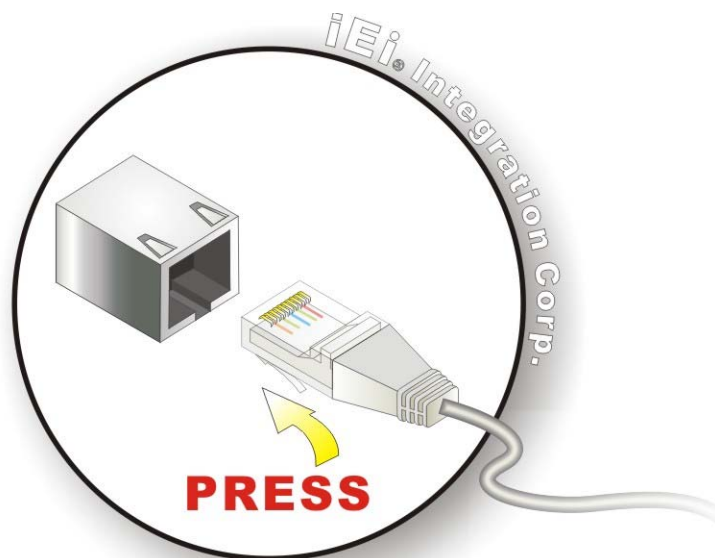

Figure 4-18: LAN Connection
Step 2: Align the connectors. Align the RJ-45 connector on the LAN cable with one of the RJ-45 connectors on the bottom panel of the AFL2-12A-D525. See **Figure 4-18**.